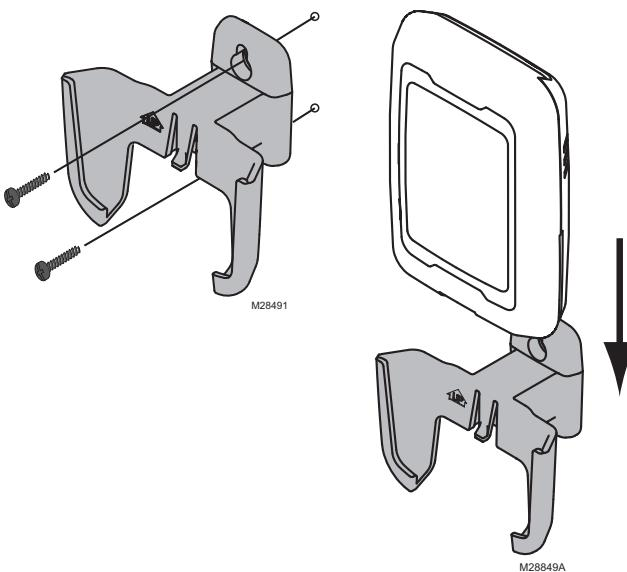

Fig. 3. Mounting the Sensor Bracket and Sensor
1. Mount the sensor bracket on a vertical wall, at least 6 inches below any overhang. Choose a location protected from direct sunlight. See Fig. 3.
7. Place sensor cover back on the sensor and return the sensor to the bracket. See Fig. 3.